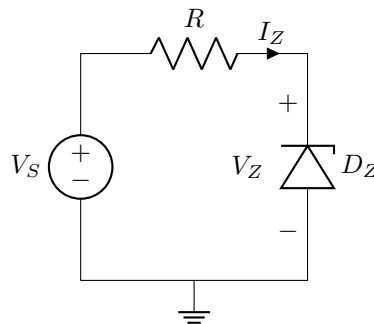

Figure 3: Zener diode characteristic measurement circuit. The Zener diode is reverse-biased with the cathode toward the positive supply.
Construct the circuit shown in Figure 3 using a Zener diode and a $100\ \Omega$ resistor. Pay careful attention to the polarity: for the Zener to operate in breakdown, its cathode (the marked end) must be connected toward the positive terminal of the supply through the resistor, and its anode must be connected to ground. This is the reverse of normal diode operation.
4. For the Zener circuit in Figure 3, assume $V_S = 10\text{ V}$, $R = 100\ \Omega$, and $V_Z = 5.1\text{ V}$ (and assume this voltage remains constant in breakdown). Calculate (a) the current through the Zener diode, (b) the power dissipated by the Zener diode, and (c) determine whether this exceeds a 1 W power rating. Show all work.
5. Explain in your own words the difference between static (DC) resistance and dynamic (small-signal) resistance of a diode. Write the mathematical expression for calculating each type of resistance.